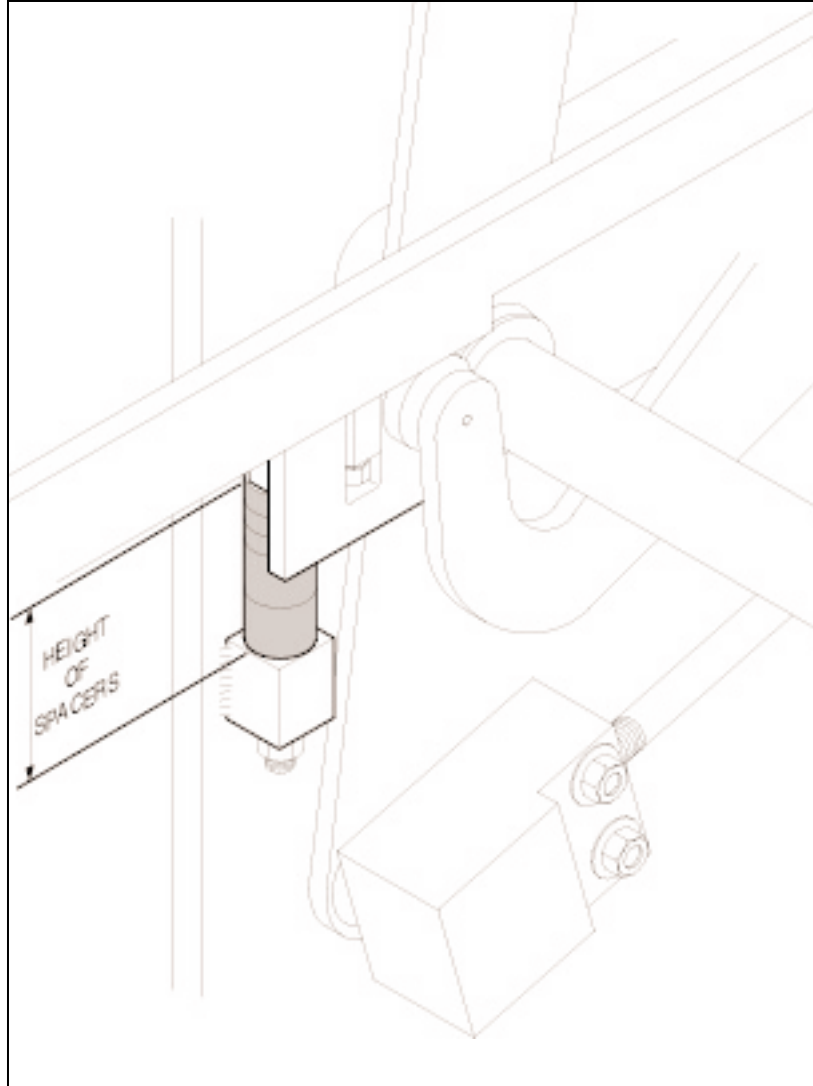

Figure 4.41 MEASURING COLUMN OF SPACERS
- 4.3.17 Measure the column of spacers supporting the pallet feeder assembly: if column is **8 3/4 [222mm]** high, go to step 4.3.27. If not, go to step 4.3.18 (see figure 4.41).